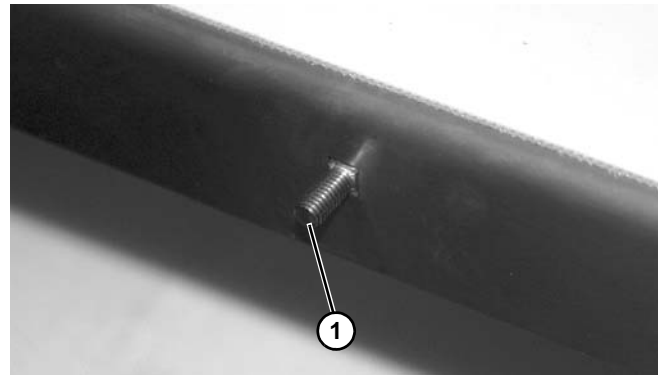

Figure 30
1. Install carriage bolt (**Figure 30, item 1**) through square hole in conveyor frame.